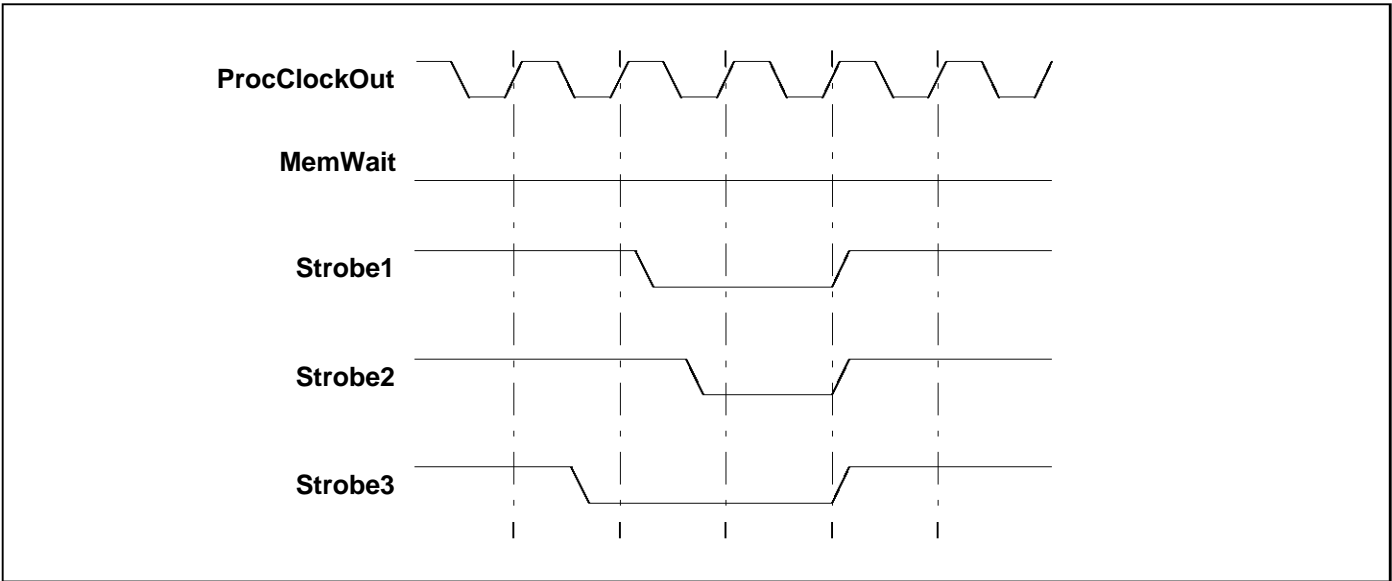
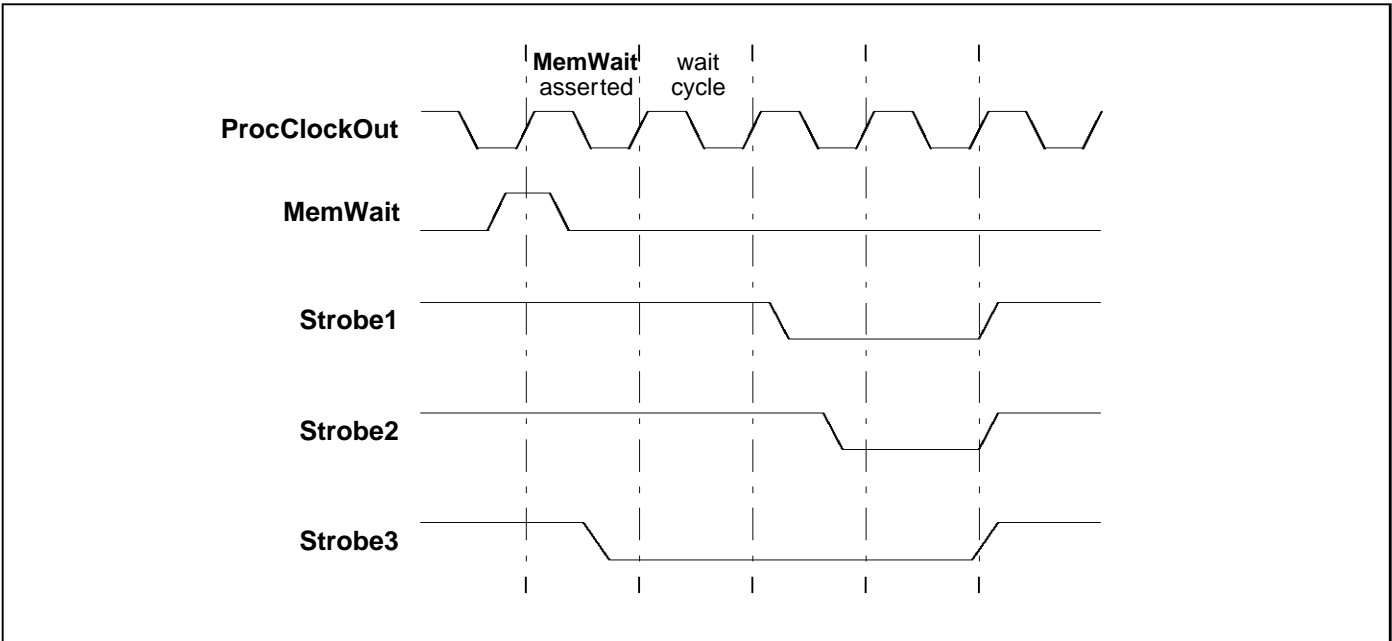

Figure 9.5 Strobe activity without MemWait
Figure 9.6 Strobe activity with MemWait
**MemWait** is provided so that external cycles can be extended to enable variable access times (for example, shared memory access). **MemWait** is sampled on a rising clock edge before being passed into the EMI. It is only effective when the EMI is in the RAS or CAS times and has the effect of holding the RAS and CAS counter values for the duration of the cycles in which it was sampled high. Any strobe transitions occurring on the sampling edge or the falling edge immediately after will not be inhibited, but transitions on the rising and falling edges of the cycle after will not occur. Figure 9.5 and Figure 9.6 show the extension of the external memory cycle and the delaying of strobe transitions.